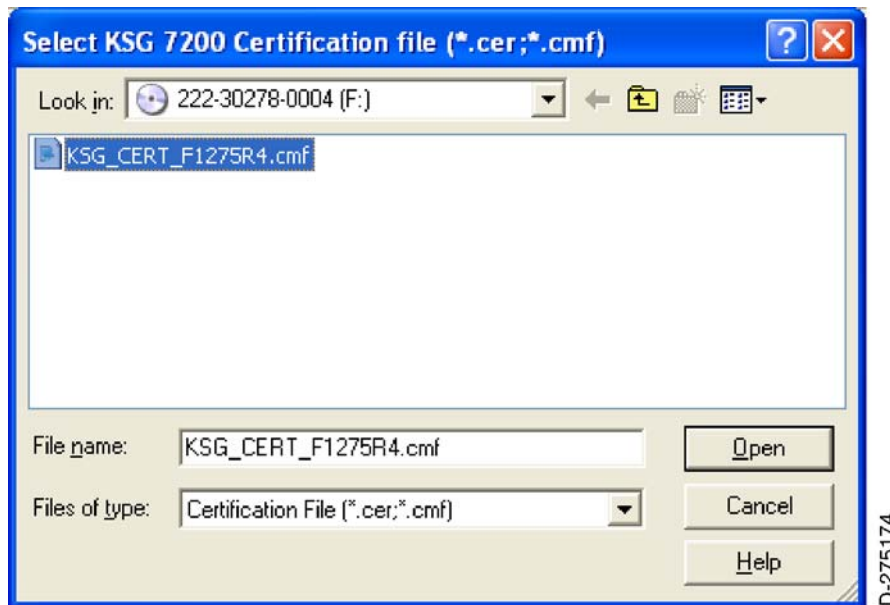

Figure 29. (Sheet 1 of 1) Select KSG 7200 Certification File (*.cer;*.cmf) Window for Twin Otter Certification File KSG_CERT_F1275R4.cmf (Certification File 1a)
- (b) Refer to Figure 29 to identify Twin Otter (Certification File 1a).